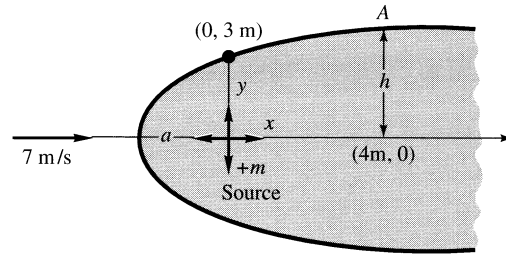

Fig. P8.31
**8.31** A Rankine half-body is formed as shown in Fig. P8.31. For the conditions shown, compute (a) the source strength  $m$  in  $\text{m}^2/\text{s}$ ; (b) the distance  $a$ ; (c) the distance  $h$ ; and (d) the total velocity at point A.